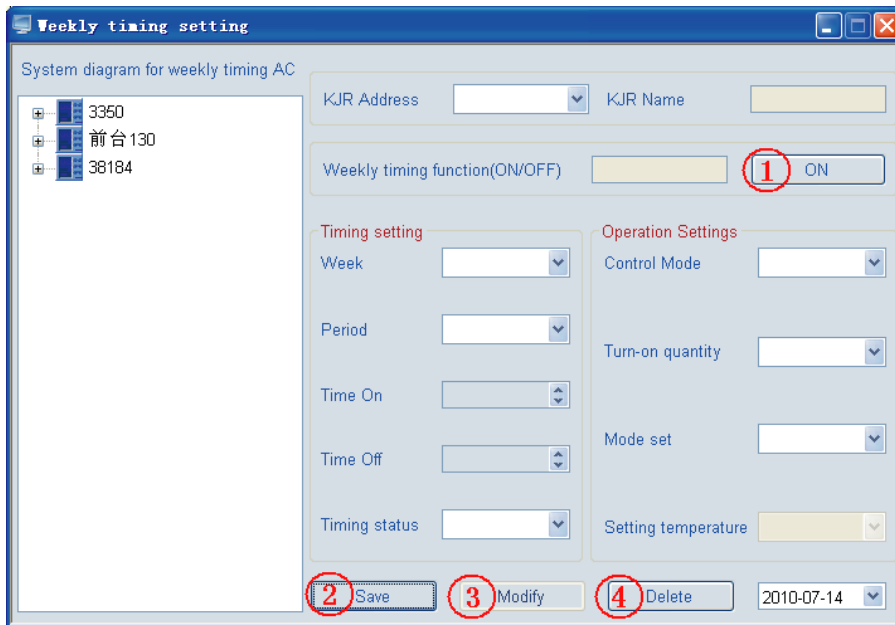
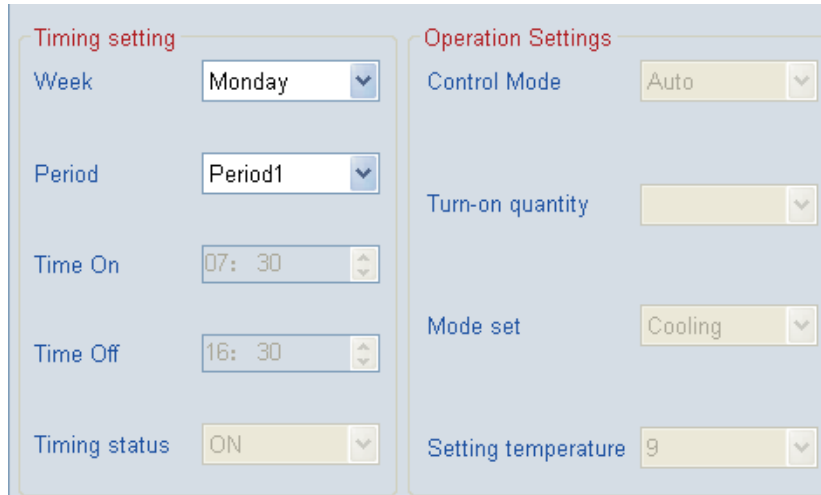

Fig.4-29
Fig.4-33
①Click “Weekly timing set” a window as Fig. 4-29 would pop up——finish the weekly schedule management setting, each wired controller represents a refrigeration system; and the existing wired controller is a wired controller has already been configured in the system.
- e. Save (See the ② key in the Fig.4-29) — — Save the current settings or the modified settings.
f. Modify(See the ③ key in the Fig.4-29) — Press this key the parameter of selected period become changeable, and then click “Save” . Press the key again, all parameters in this period become unchangeable. See Fig. 4-33.